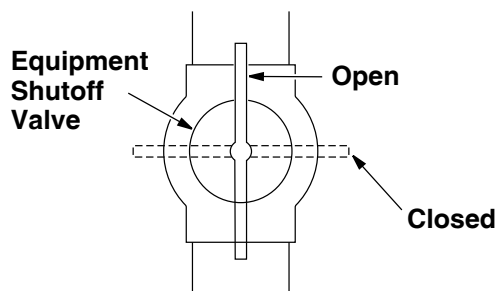

Figure 50 - Equipment Shutoff Valve
1. Close equipment shutoff valve (see **Figure 50**).
1. Open equipment shutoff valve (see **Figure 50**).